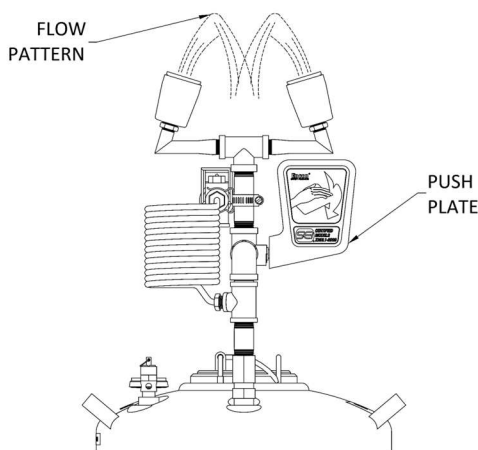

FIGURE 6
- B. Test eyewash assembly for proper fluid flow pattern by pushing on the push plate to activate the eyewash valve for a few seconds (Figure 6). Records should be maintained to verify compliance with testing procedures.